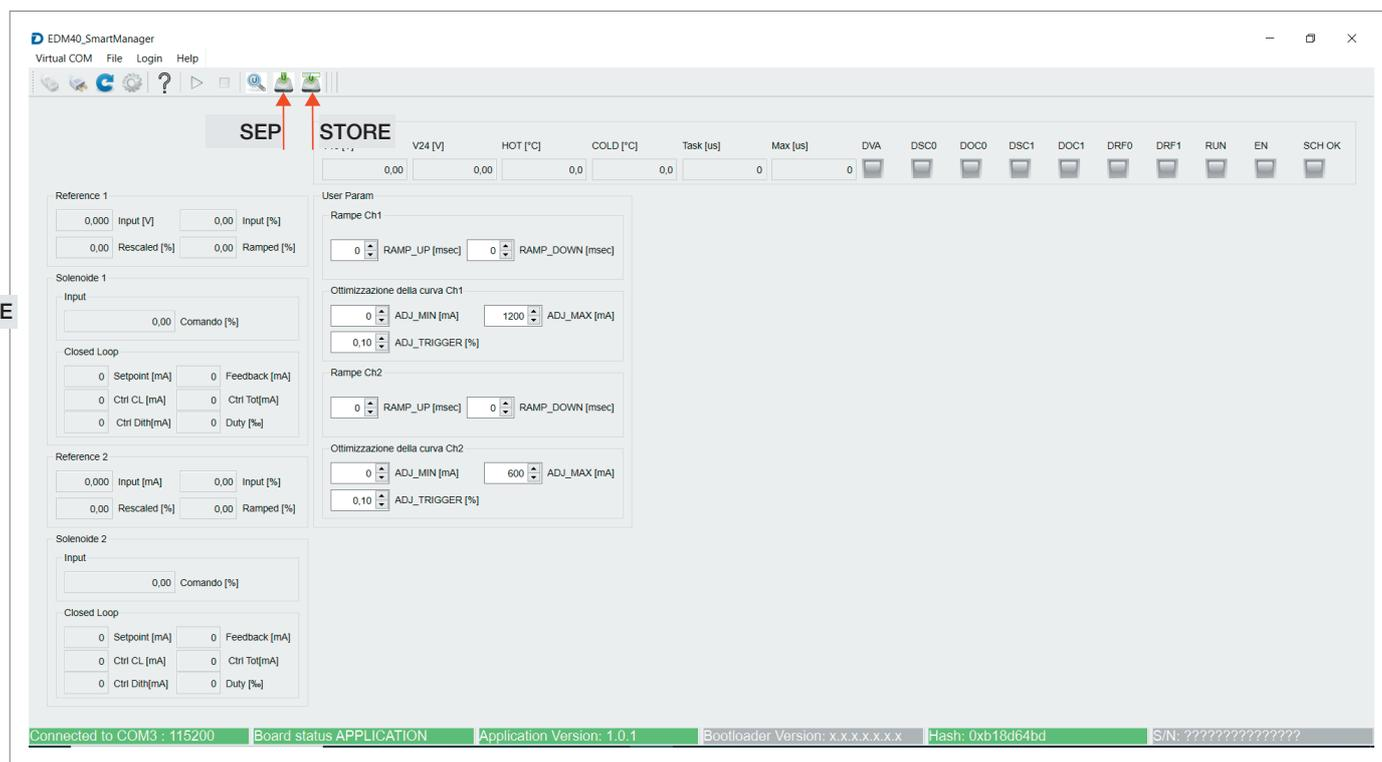

Fig. 8.21. User parameters “set” and “store”
2. change the value and press “Set user parameter” (Fig. 8.21).
To save the values you just wrote, press the “Store user parameter” button. In the event of a power failure, the data just written is not lost on reboot (Fig. 8.21).